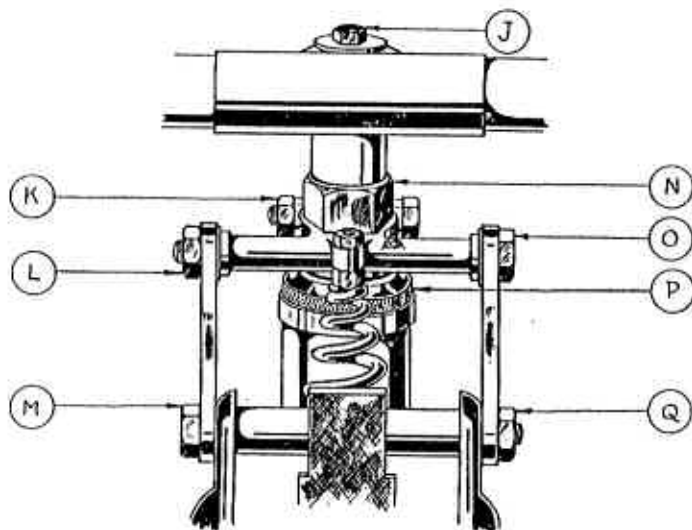

Fig. 4.
Fork Links. Slackness in the fork links may be taken up by loosening the lock-nuts (L) and (Q), see Fig. 4, and tightening the spindles (M) and (O), afterwards tightening the locknuts (L) and (Q). Repeat the process on the lower links. When correctly adjusted there should be sufficient play on the spindle to allow the fork to move freely under road conditions. An alternative method is to tighten the spindles until there is no play on them at all, and then to slacken each half-a-turn.
Head. To take up play caused by wear, slacken the locking bracket nut (K) and column locknut (N), see Fig. 4, after which the knurled headrace (P) may be tightened as necessary. Tighten locknut (N) and locking bracket nut (K).
Handlebars. To adjust handlebars, loosen bolt (J), see Fig. 4, and unscrew about $\frac{1}{4}$ ". Tap down with wooden mallet to free the expander cone, and the handlebar can then be moved as desired. Afterwards re-tighten bolt (J) securely.